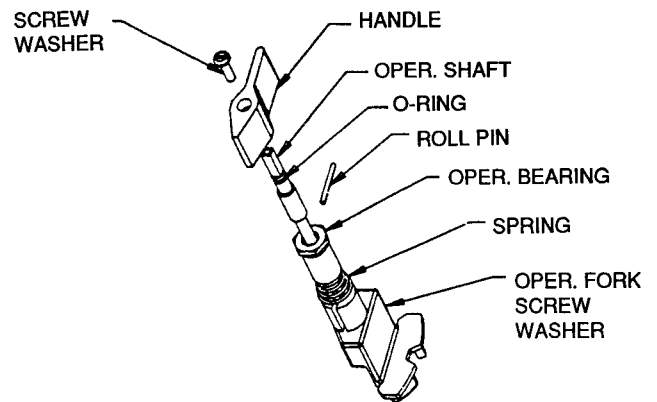

FIGURE 6 • Typical Branch Circuit Breaker Handle Assembly
3. Thread in operating bearing from the outside of the panel until the bearing bottoms out (see Figure 6).